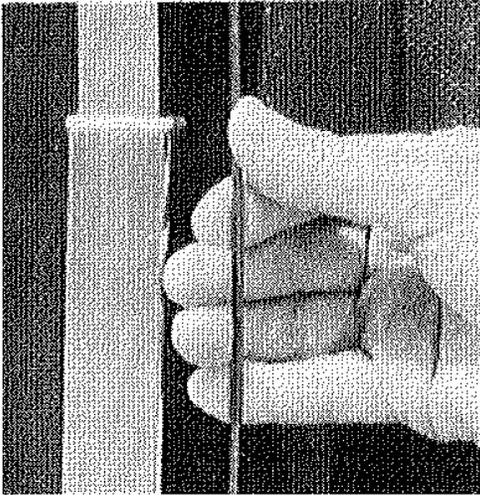

Fig. 3
3. Push toggle switch "up" to initialize power and raise roof. Continue to hold the toggle switch up until the gray limit cable is ALMOST taut. See figure 3 in your owner manual.
8. Now, complete raising roof until gray limit cable is snug. **DO NOT OVERTIGHTEN.** Fig 3